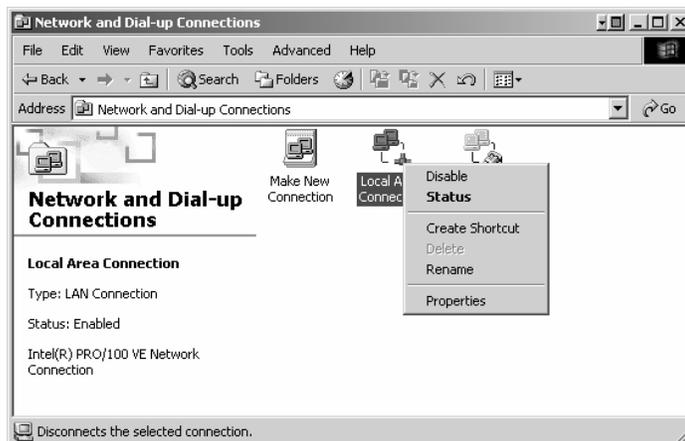

Figure 105: Network and Dialup Connections
2. A list of network connections appears. See Figure 105. The Local Area Connection icon must be listed. If it is not, the network is not installed correctly.